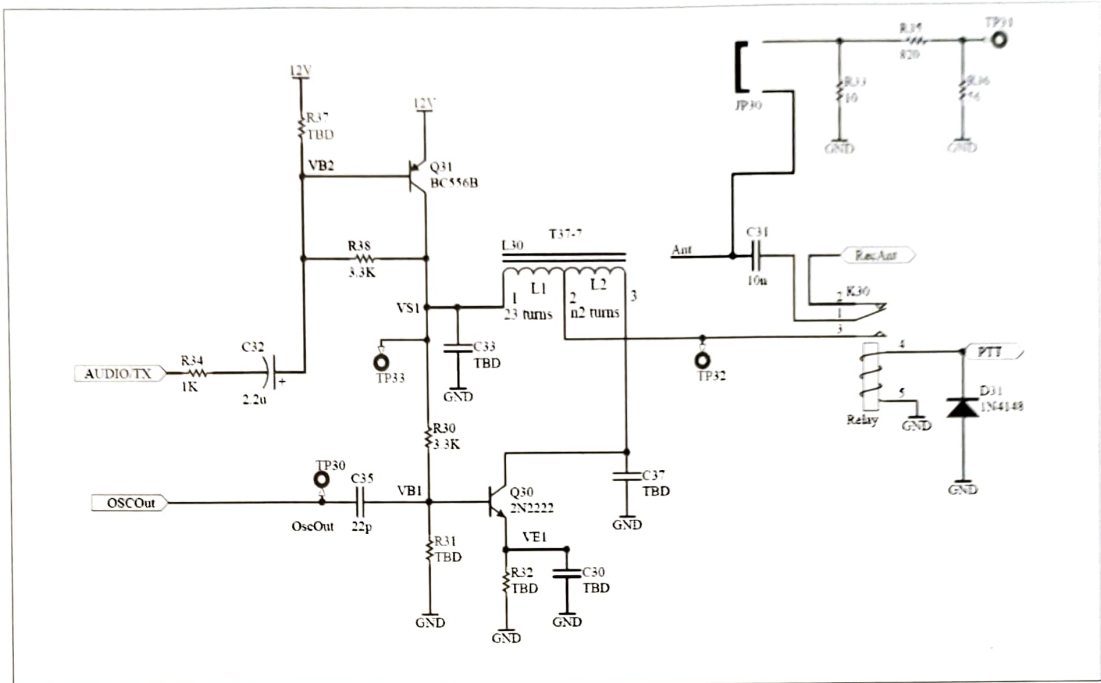

Figure 7: Schematic of the Amplitude modulator of TRC-11.
1. Most of the amplitude modulator is already built as given in Fig. 7. It uses a PNP transistor (Q31) to modulate the supply voltage of the transmitter amplifier (Q30). The only missing components are R34 and C32. Watch for the direction of C32 while mounting. Solder them. They connect the input of the modulation amplifier to the microphone amplifier output.